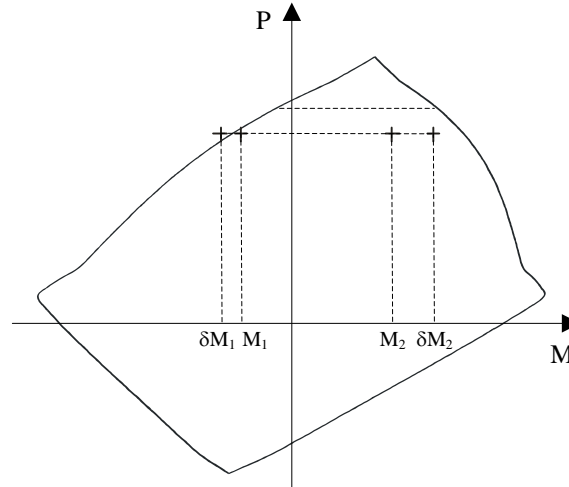

Figure 2-8 Case of unsymmetrical section bent in double curvature (M_1 and M_2 of different sign) with the smaller end moment, M_1 , governing the design
While design codes define moment M_2 as always positive and the sign of moment M_1 depending on single or double curvature bending⁴⁹, spColumn retains actual signs of moments M_1 and M_2 . This revision ensures proper comparison against negative and positive moment capacities of unsymmetrical sections (see Figure 2-8).
2. Moments at column ends, M_1 and M_2 , are calculated, where M_1 is the moment with the smaller absolute value and M_2 is the moment with the larger absolute value. For columns in nonsway frames, the end moments will be equal to the factored applied first order moment. For columns in sway frames, the end moments will be the moments M_1 and M_2 calculated in the procedure for moment magnification at ends of compression member. While design codes define moment M_2 as always positive and the sign of moment M_1 depending on single or double curvature bending⁵⁸, spColumn retains actual signs of moments M_1 and M_2 to ensure proper comparison of resulting magnified moments against negative and positive moment capacities of unsymmetrical sections (see Figure 2-8). This revised interpretation does not affect results of the moment magnification along length procedure because the procedure relies on the M_1/M_2 ratio. spColumn follows the code definition which assumes the ratio to be positive if the member is bent in single curvature and negative if bent in double curvature. If both moments are equal to zero, the program conservatively assumes the ratio of $M_1/M_2 = 1.0$.
- The factored magnified moment along the length of a compression member, M_c , is the larger⁷⁰ of δM_2 and δM_{\min} . The program also calculates moment M_c based on the smaller end moment, M_1 , to account for scenario when M_1 and M_2 are of different sign (double curvature bending). For an unsymmetrical section, the smaller moment, M_1 , may govern the design when the moment capacity on the negative side of the interaction diagram is smaller than the moment capacity on the positive side (see Figure 2-8).